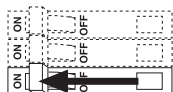

Figure 2
- Install trim/LED module (**Figure 2**) by compressing trim clips and pushing the trim into opening until clips engage on sides of the housing. Use a damp cloth to clean the trim/lens.
- Replace trim/LED module (**Figure 2**) by compressing trim clips and pushing the trim into opening until clips engage on sides of the housing. Use a damp cloth to clean the trim/lens.